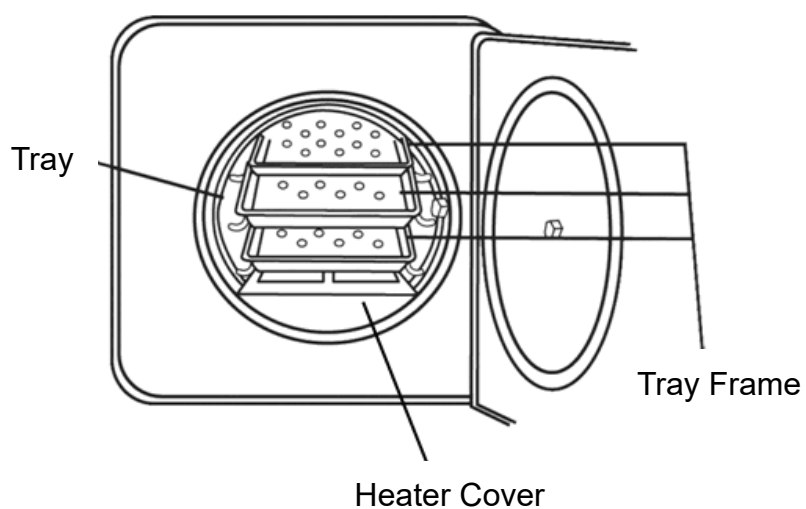

Figure 32 – Tray
- C. Figure 32. (standard accessory)